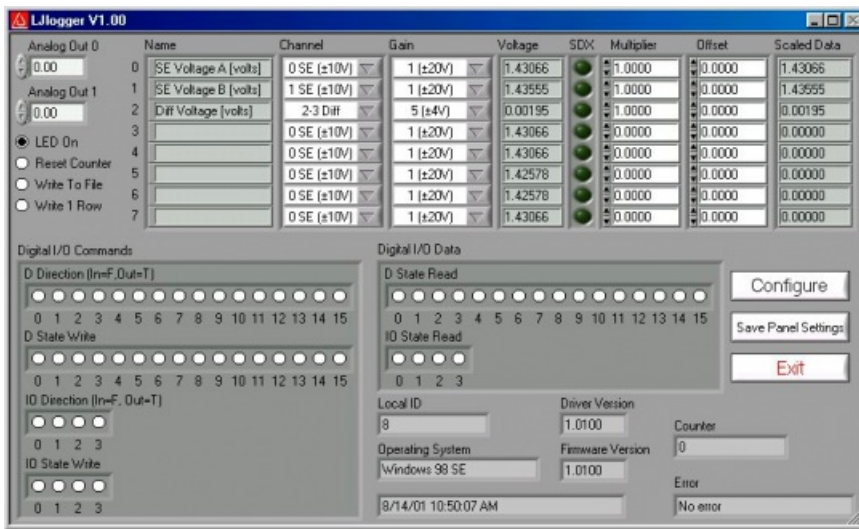

Figure 3-5. LLogger
The main window for LLogger is shown in Figure 3-5. The white colored items and the “SDX” buttons are controls to be edited/selected by the user. The grey colored items are indicators which display various information about the LabJack. Clicking the button labeled “Save Panel Settings” will save the current values of the controls as the default values.
Clicking the “Configure” button shown in Figure 3-5 brings up the window shown in Figure 3-6:
- **Trigger #0:** If the scaled data from analog input row 7 (Figure 3-5) is greater than 5, then set AO1 to 5 volts. Once triggered, there is a 10 second delay before it can be triggered again.